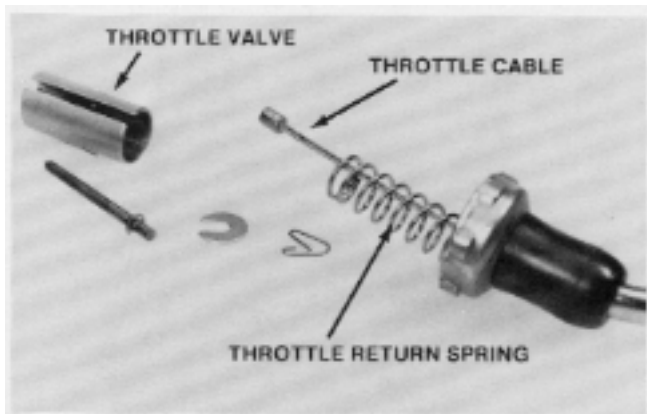

Figure 24
6. If it is necessary to remove the throttle parts from the throttle cable perform the following. Compress the throttle return spring and pull the lead lugged end of the cable from the slot in the throttle valve. Remove the throttle spring from throttle cable. From the throttle valve, push out the retainer and the needle jet assembly. See Figure 24.